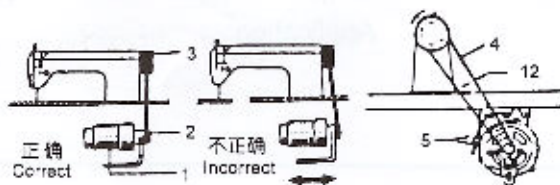

Figure 4
① The location of the knee-control block 1 ought to be adjusted in accordance with the operator's working condition to ensure convenience in operation.
② How to locate the adjuster 2: When adjuster 2 is aimed to control the movement of part 3 the knee component can be used to control the swaying of the needle. When the adjuster 2 is aimed to control the movement of part 4, the knee component can be used to control the upraising of presser foot.
(4) Installation of motor (see Figure 4)
① Turn the motor 1 from side to side in a bid to ensure the driving wheel of the sewing machine 3 being in line with the pulley of the motor 2.
② How to regulate the running direction: Viewed from the outside of the driving wheel, the running direction should be counter-clockwise. Make sure that the turning of the motor should be in uniform and regular direction which can be regulated by the power plug on the motor with change of 180°.
③ How to regulate the tension of O-shaped Belt 4.
Release the Nut 5, and turn the motor so that the Belt tension can be regulated. If press down the belt with your fingers and bend it over to 12-20 mm as shown in Figure 4, the tension is considered as ideal one.